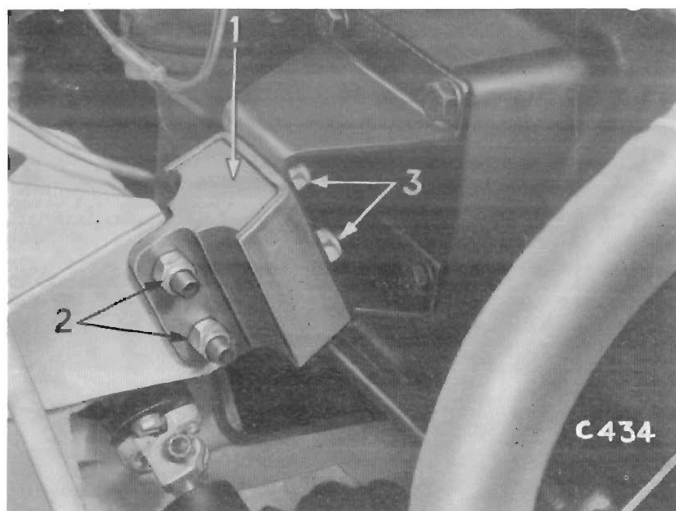

Fig. 11. Front engine mountings
- Front mountings (1), Fig. 11.